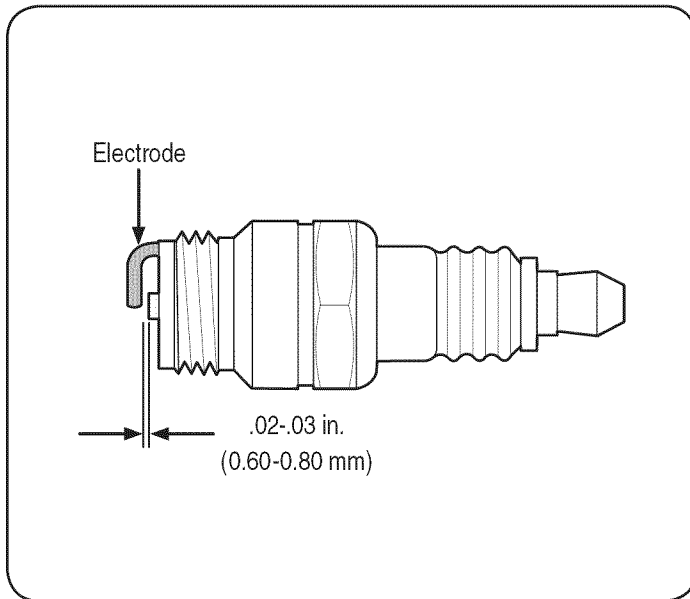

Figure 19
3. Measure the plug gap with a feeler gauge. Correct as necessary by bending the side electrode, Figure 19. The gap should be set to .02-.03 inches (0.60-0.80 mm).